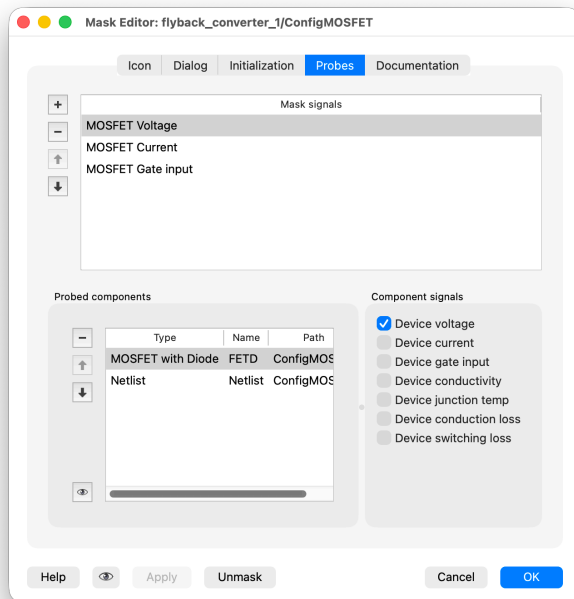

Figure 9: Configurable MOSFET subsystem: probes tab
- Repeat this procedure for each signal that needs to be probed. As a result, the **Probes** tab of the mask should appear similar to Fig. 9.